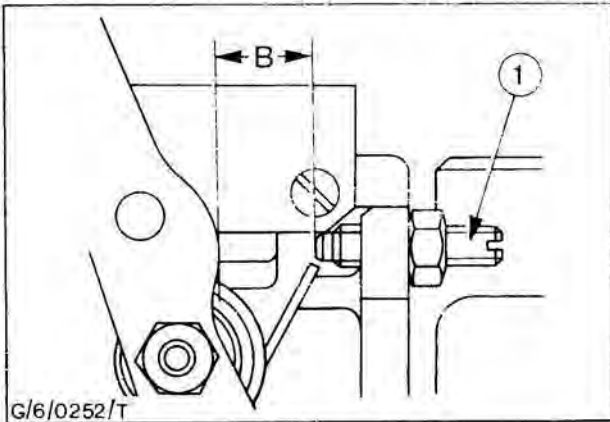

Fig. 8. Adjust maximum speed setting
1. Push the accelerator linkage against the speed adjustment screw, Fig. 8.